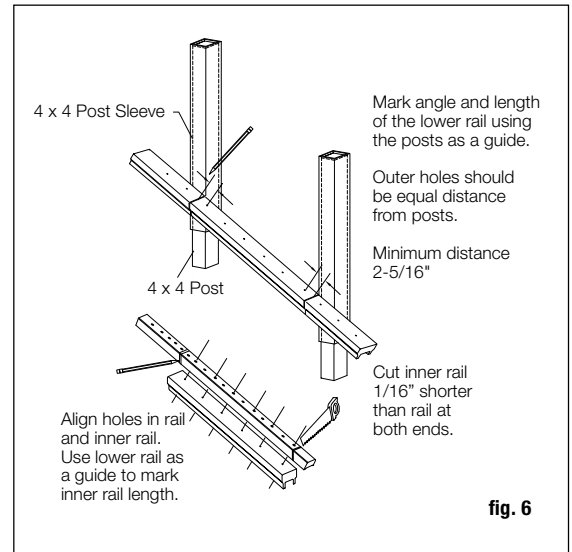

fig. 6
Step 4 *Note: The rails are predrilled. To ensure the outer balusters are equally spaced, the rail components require trimming at both ends.* Using the lower predrilled rail as a guide, place it adjacent to the post sleeves and center the rail so the furthest predrilled holes for the balusters are equal distances from the post sleeves. Using the posts as a guide, mark the angle for the beveled cut vertically through the rail section. Mark the gap between the posts onto the rail and trim to fit (fig. 6).
Step 5 *Note: To ensure the balusters are installed plumb, the holes between the rail sections must all be aligned. Tip: Use a gauge pin or a 3/32" drill bit to ensure the holes are aligned.* Using the trimmed lower rail as a guide, set the upper inner rail on top of the trimmed lower rail and align the predrilled holes. Mark the cut lines on the inner rail with a pencil. *Note: To allow for the thickness of the brackets, the inner rails should be 1/8" shorter than the lower rails with all holes equally spaced.* Remove an additional 1/16" from the pencil mark on each end and trim the inner rail to length. Repeat for the second inner rail (fig. 6).